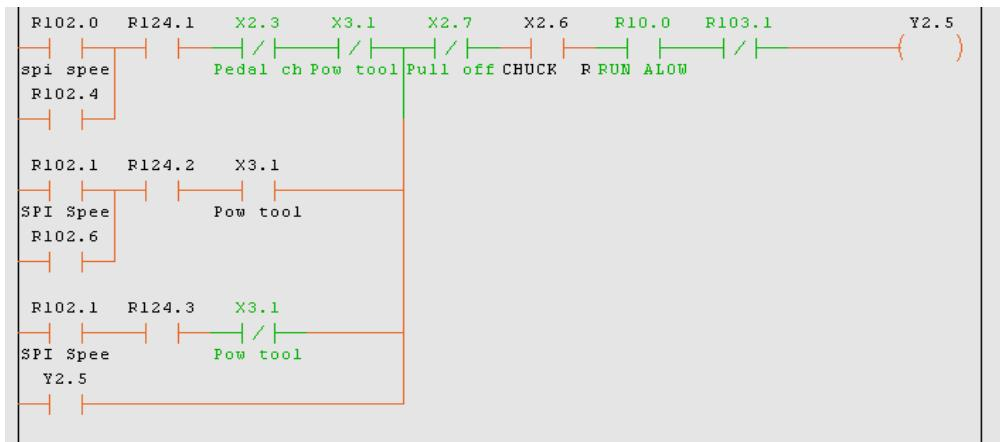

Figure 6.6.4 Tool arm inverse
1. Find the code position of the tool arm inverse. See Figure 6.6.4.
2. Select a line, e.g. ATCI in Figure 6.6.4, and then force enable all primitives that have